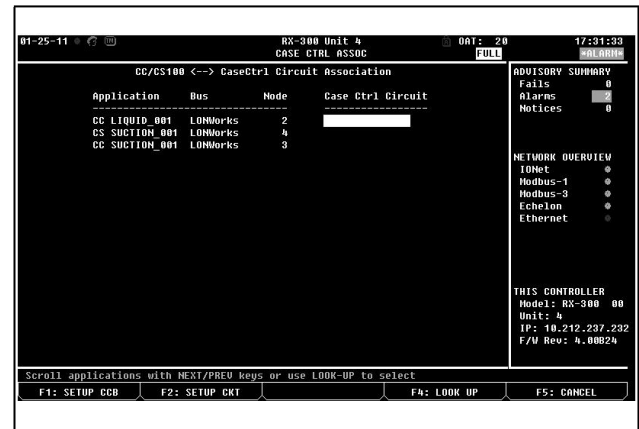

Figure 11-7- CC/CS100 Circuit Association Screen (RX-400)
4. Press **\$4** for Case Control Associations. The Case Control Association screen should look like **Figure 11-7**: